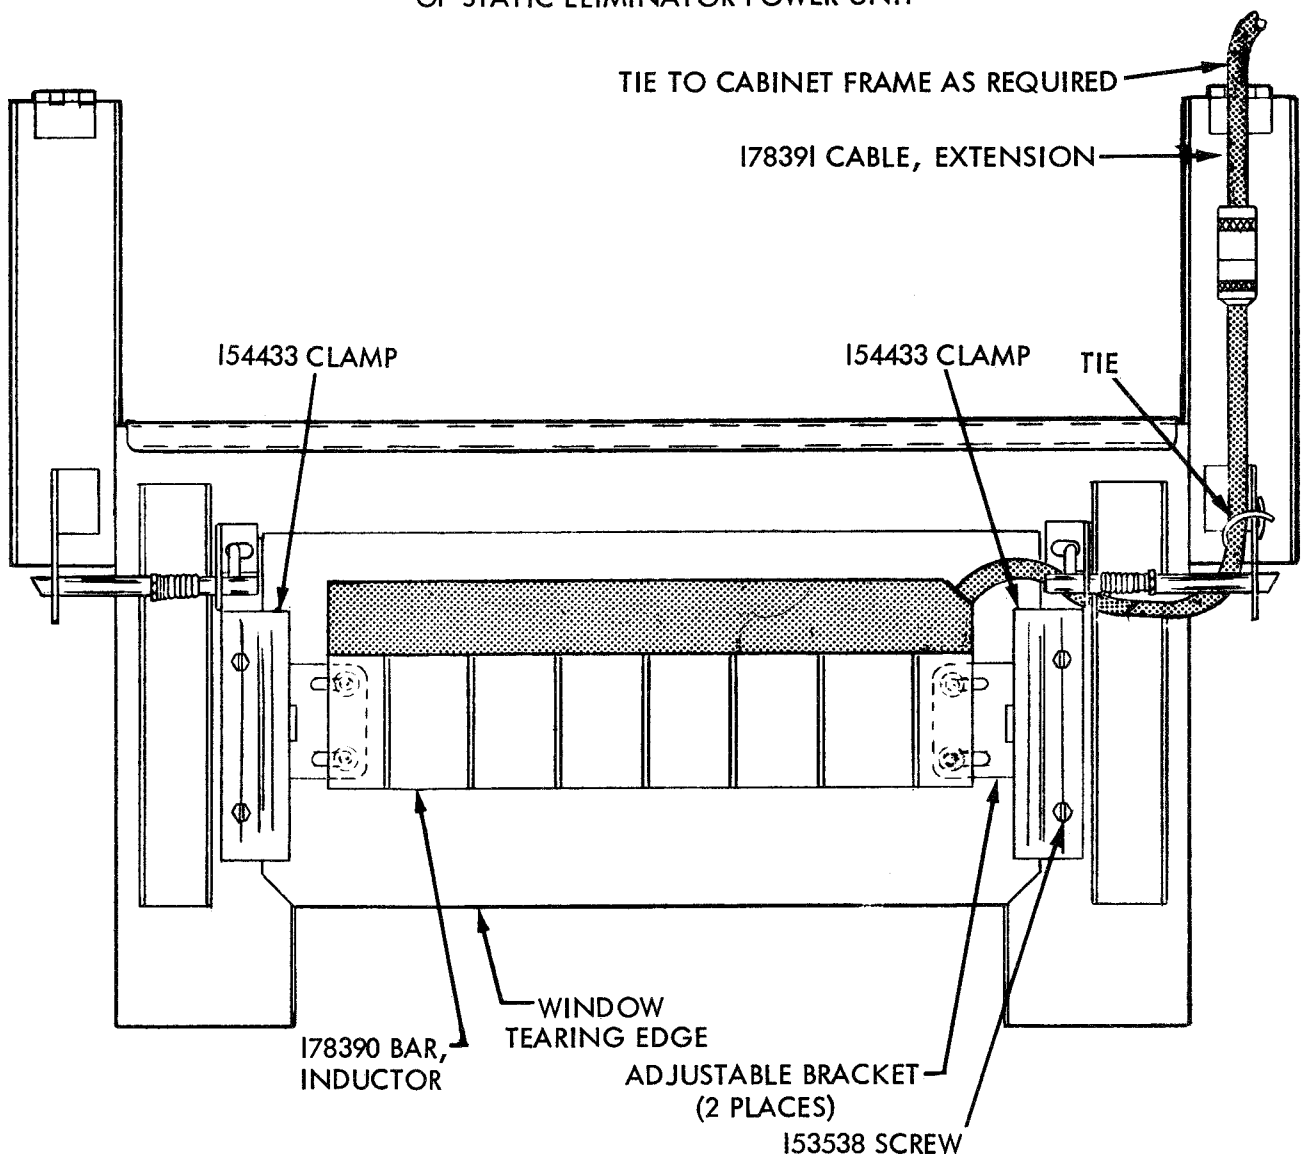

FIGURE 3. INDUCTOR BAR INSTALLED ON COVER OF LBAC 247** CABINET
d. 178390 INDUCTOR BAR (Figure 3)
(1) Adjust the inductor bar by means of the four adjustable bracket mounting screws so that the adjustable brackets (one at each end of inductor bar) are at their minimum extension.
(2) Inspect the inductor bar to make certain that it is clean and free from defects that might obstruct vision. If the inductor bar must be cleaned, use only a damp tissue or a clean soft damp cloth. Also, clean both sides of the cabinet window, if necessary.
(3) Loosen the four 153538 Screws that retain the two 154433 Clamps for the window (see Figure 3). Install the inductor bar underneath the window by sliding the adjustable bracket at each end of the inductor bar under the clamps. The inductor bar should be positioned so the needle points are facing toward the tearing edge of the window, and the cable is extended from the right side of the inductor bar. Position the inductor bar as far away from the tearing edge of the window as possible. Center the inductor bar with respect to the sides of the cover opening. Extend the inductor bar brackets until the tabs stop against the window clamps. Tighten the four window clamp mounting screws and the four adjustable bracket mounting screws.
(4) Route the inductor bar cable and tie to cover as shown in Figure 3.
e. 178391 INDUCTOR BAR EXTENSION CABLE (Figure 3)
(1) Route the extension cable from the inductor bar cable to the power unit between the right side panel of the cabinet and the inner cabinet frame.